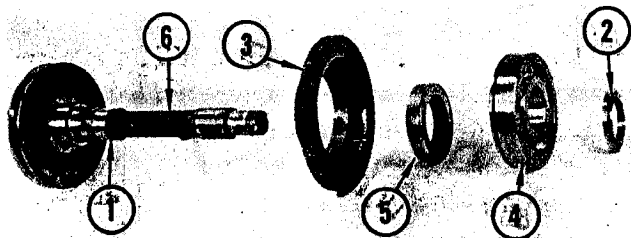

FIGURE 26. OUTPUT SHAFT
Refer to Figure 26. Disassemble output shaft assembly in the numerical order as shown. Carefully remove piston ring (1). Drill stake from locknut (2) and remove locknut. Remove bearing retainer (3) with bearing (4) and oil seal (5). Press bearing and seal from bearing retainer. Item (6) is output shaft.